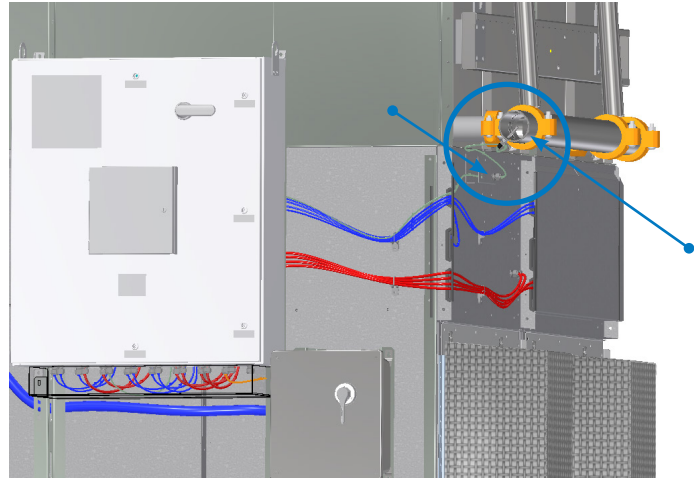

Figure 22. Manifold Connection Outlet and Leaving Process Fluid Temperature Sensor
5. Install the connection outlet with the leaving process fluid temperature sensor port pointing at 45° toward unit. Run the wire through the cord grip and brackets. Install the bracket as needed. This wire will be routed through the same path as the fan communication wire and back to the iPilot™ Control System panel. See **Figures 22** and **23**.